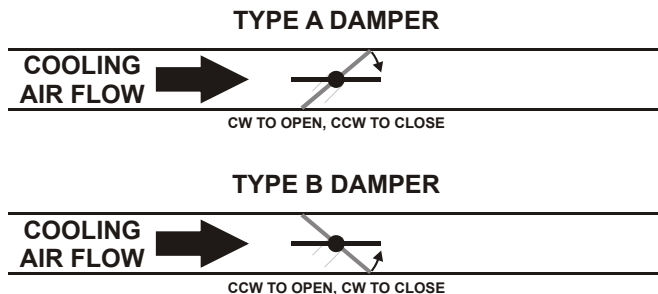

Fig. 7. Determining direction of rotation
3. Determine the direction (CW or CCW) in which the damper shaft rotates to open the damper (see Fig. 7).